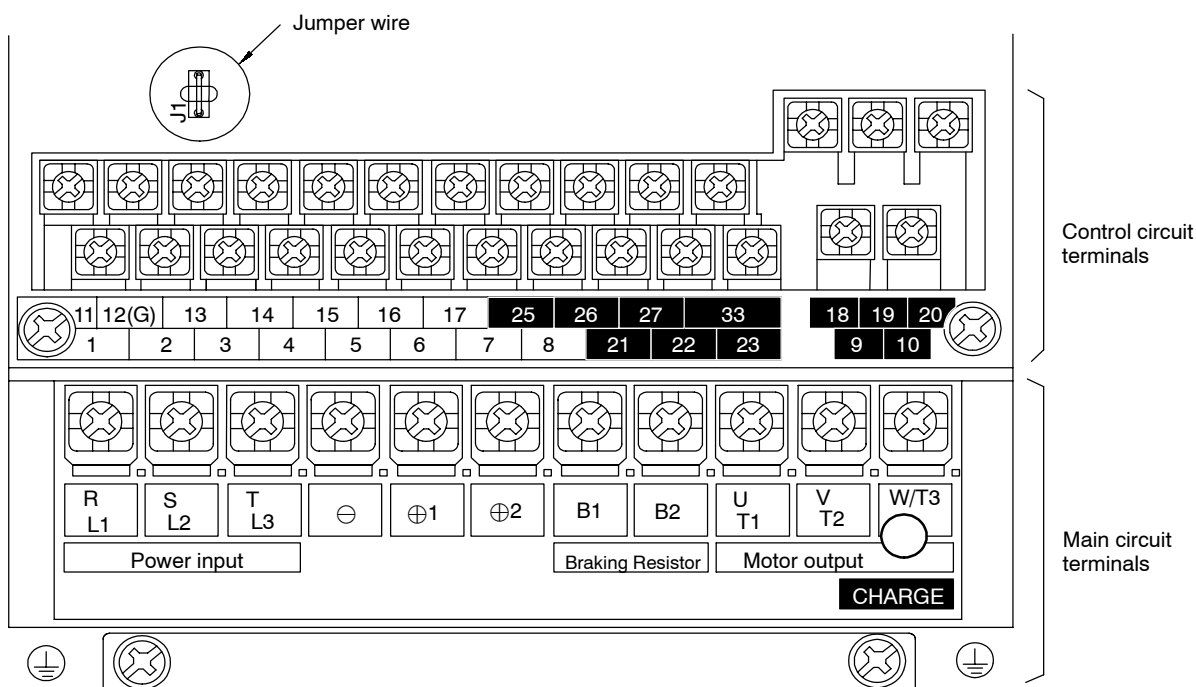

Fig 6.1 Terminal Arrangement of a 200V Class Inverter of 0.4kW
- When the terminal is being used as a voltage input terminal (setting 0 or 1), jumper J1 must be disconnected on the control board. (See Figure 6.1.) The terminal's input resistor will be destroyed if the terminal is used for a voltage input with jumper J1 connected.